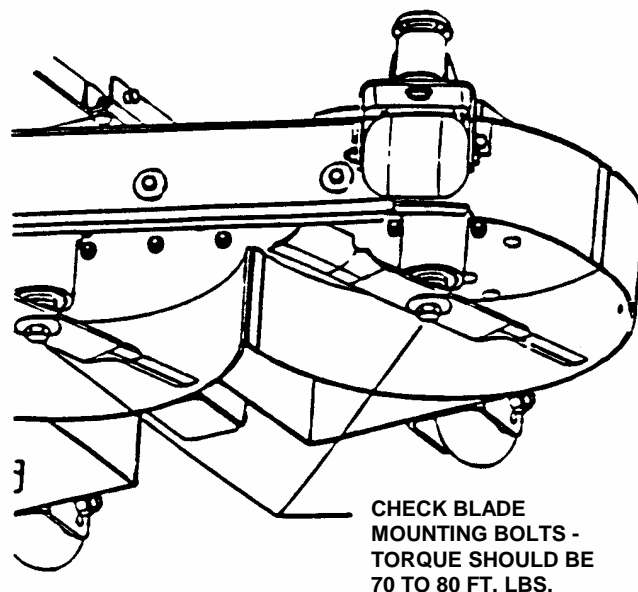

FIGURE 4.2
4. Check torque of blade mounting bolts. As necessary, torque to 70 to 80 ft. lbs. See Figure 4.2.